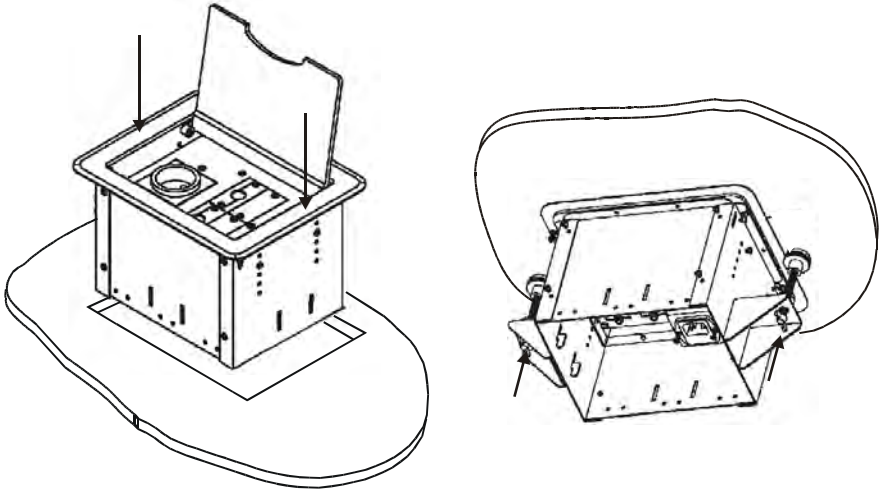

Figure 5: Inserting TBUS-1A into the Prepared Opening
1. Carefully insert the unit into the prepared opening (see Figure 5).
4. Screw both mounting butterfly screws upward until they reach the table surface (from underneath). Tighten firmly (see Figure 5).